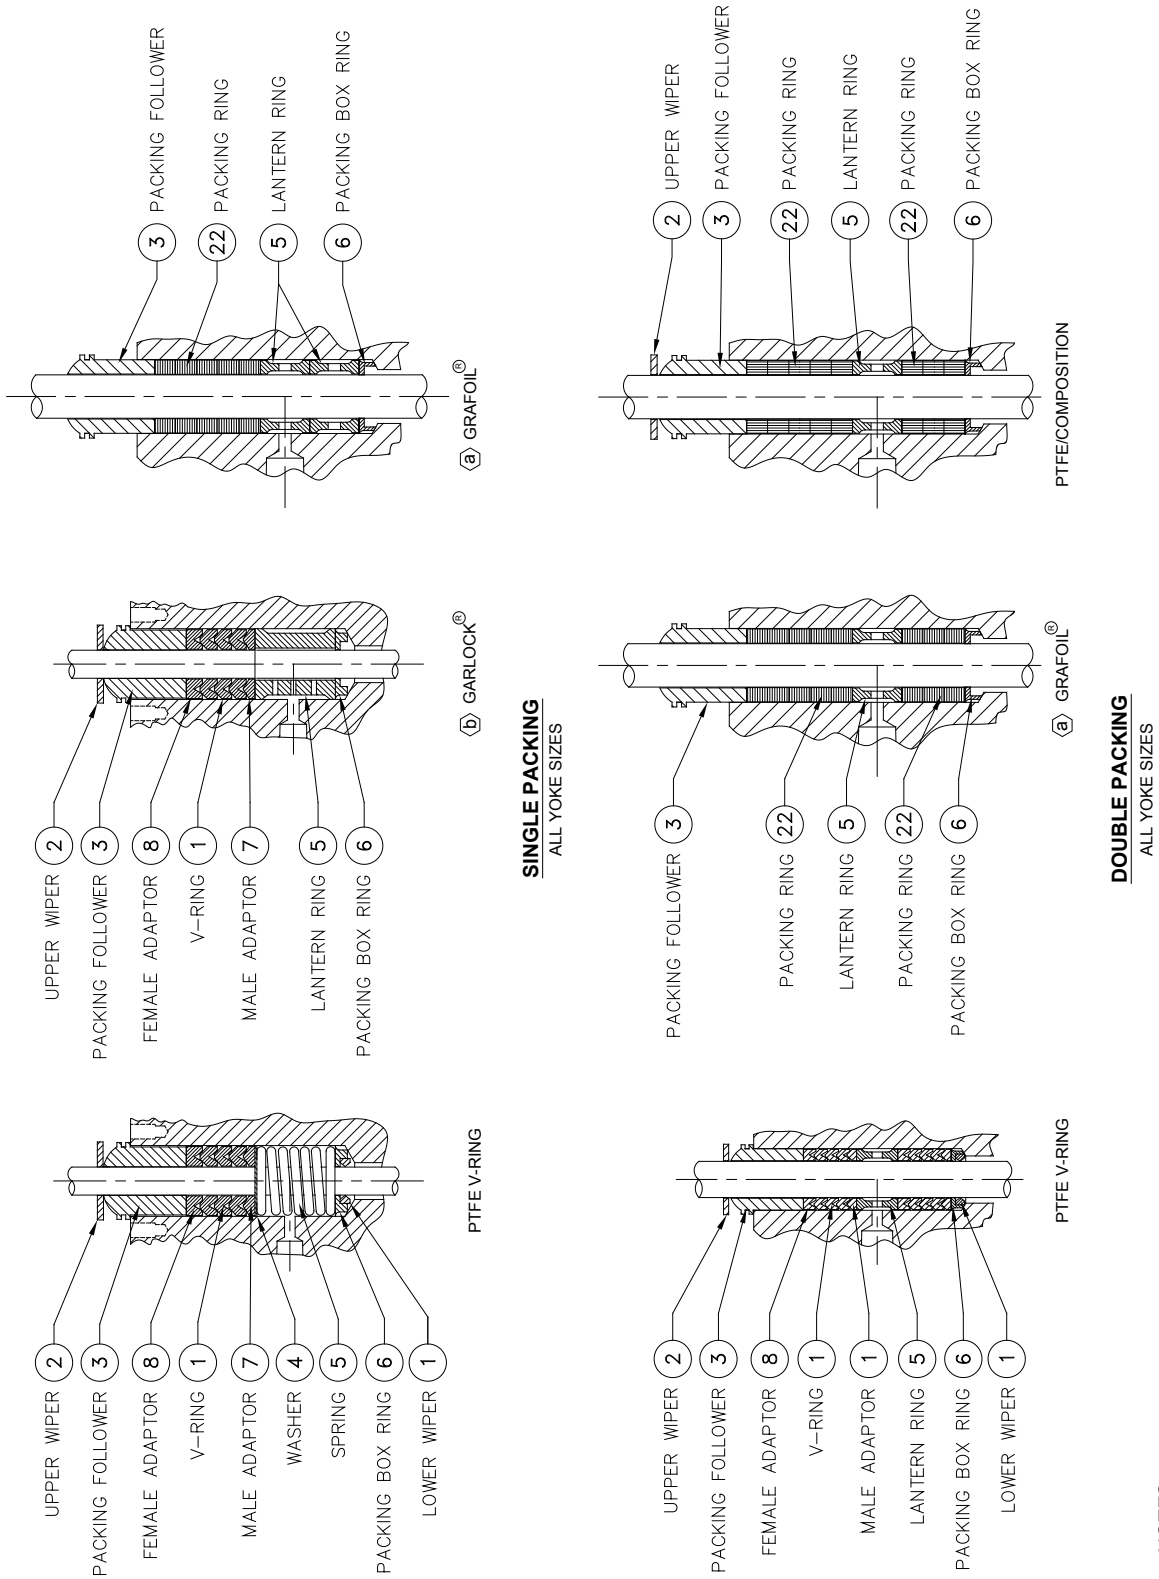

Figure 2: TFE V-Ring Packing Arrangements
7. With leak-off bonnet construction, remove the pipe plugs (Figure 2, Keys 14 and 23) to connect the leak-off piping. To avoid an interruption of service during inspection or maintenance, install a three-valve bypass around the control valve assembly.
This section provides instruction for maintenance of TFE V-Ring packing. If your CVS Controls EWD, EWS or EWT Control Valve uses graphite laminate or filament packing, refer to the appropriate manuals. Refer to Figure 2 for appropriate key numbers unless otherwise indicated.
For packing that is spring-loaded single TFE V-ring packing, a sealing force is maintained by the spring (Figure 2, Key 5). If leakage around the packing follower (Figure 2, Key 3) is detected, tighten the packing flange nuts (Figure 2, Key 16). If this does not stop the leakage, refer to the Replacing Packing section of this manual.
If using packing with a lantern ring (Figure 2, Key 5), packing rings may be installed above the lantern ring as a temporary measure, which does not involve removing the actuator from the valve body.
13. Refer to Figures 2 and 3 and install new packing and metal packing box parts. Using a smooth-edged pipe placed over the pipe stem, gently tap each soft packing part into the packing box. Ensure that air is not trapped between adjacent soft parts.